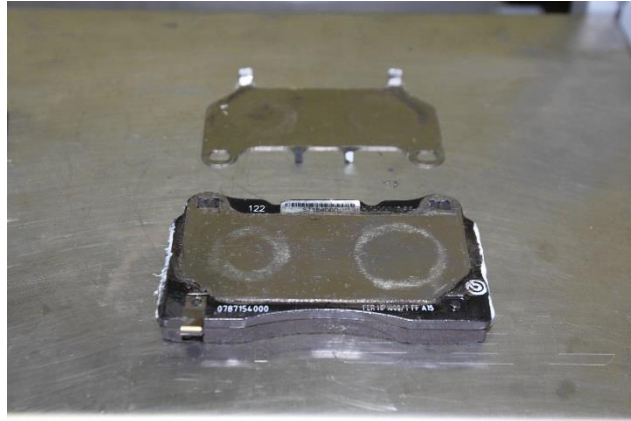

Figure 9 (Models S and X)
11. **Models S and X** - Remove the two shims from the back of each brake pad, and then wipe the shims and back of each pad with a clean shop towel (Figure 9).
15. **Models S and X** - Install the shims onto the back of each brake pad (Figure 9).